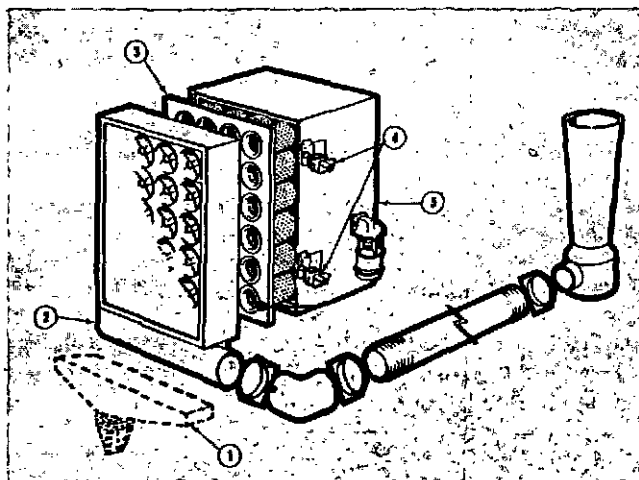

Fig. 5-14. N21026. Air cleaner-cartridge type—two stage with exhaust aspirator or dust bin (dotted lines)
1. Loosen wing nuts (4, Fig. 5-14) on air cleaner housing (5) to remove pre-cleaner panel with dust bin (1). To remove pre-cleaner panel equipped with exhaust aspirator (2) loosen "U" bolt clamp securing pre-cleaner to aspirator tubing.
2. To install a new cartridge, hold cartridge (3; Fig. 5-14) in